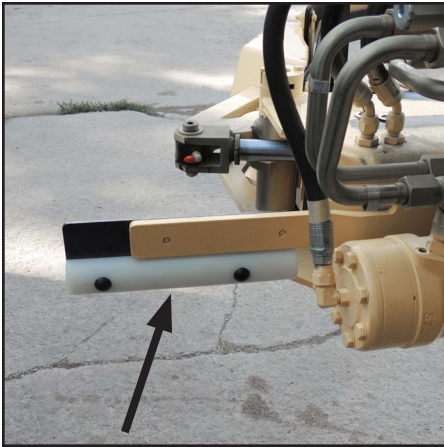

Figure 11
18. Install the new nylon hose abrasion control rod (P/N 1509941) on the **backside** of the mount using the new bolts (P/N 1543297) (Figure 11).